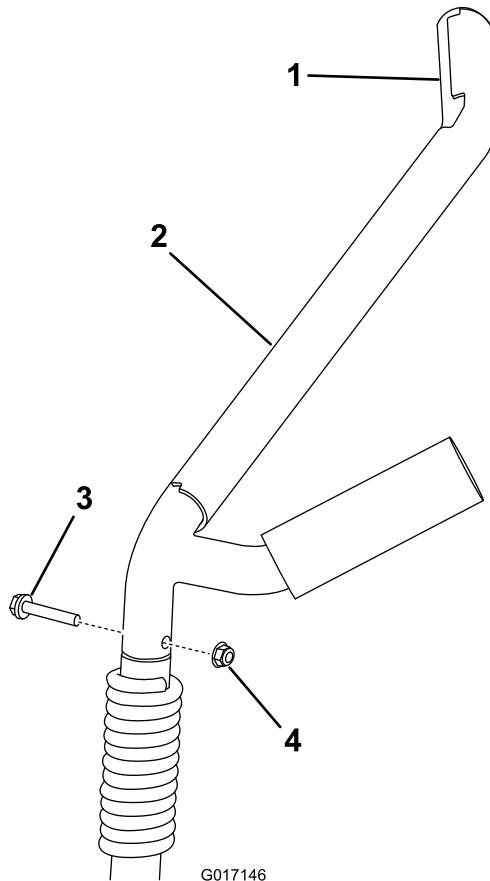

Figure 7
1. Remove the each of the 2 existing boom cradle arms by removing the bolt and nut (Figure 7).